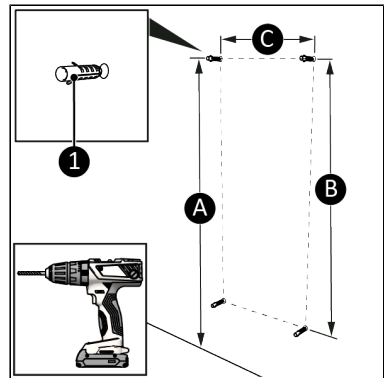

Figure 8.
4. Drill two top holes for the dowels with 392 mm horizontal distance between the holes (Figure 8, pos. C). Use the distances from the list below to ensure a distance to the floor of at least 60 cm below the unit (Figure 8, pos. A).
5. Drill two bottom holes for the wall plus with 392 mm horizontal distance between the holes (Figure 8, pos. C). The vertical distance between the bottom and top holes is approximately (Figure 8, pos. B):